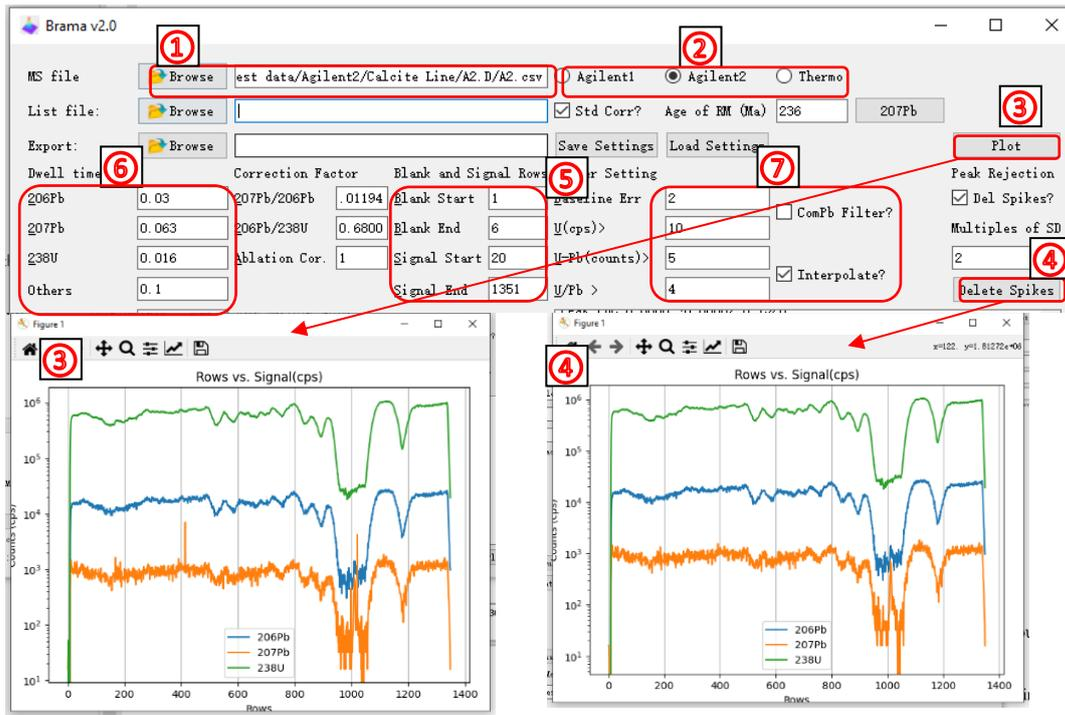

Fig. 1-13 Data import and signal display
As shown in Fig. 1-13, Click ①<import data>→②<select data format> import the Ms file.